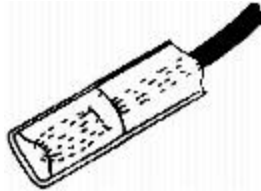

FIG. 3
7. Slowly insert connection into sealing pack until it fits snugly against the opposite end (FIG. 3).